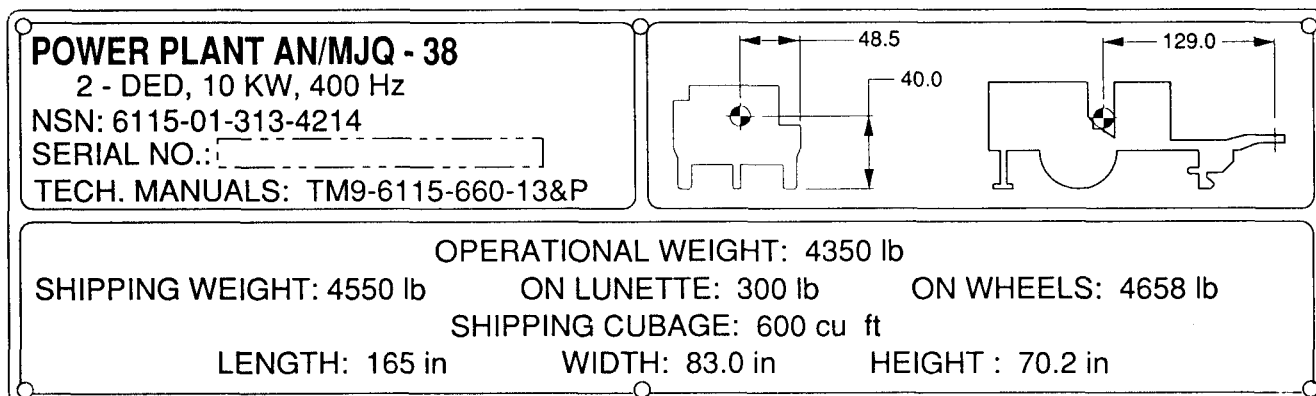

Figure 2-11. AN/MJQ-38 Identification/Transportation Data Plate.
**2-6.2 AN/MJQ-38 Identification/Transportation Data Plate.** Refer to figure 2-11. This plate is located on front of curbside fender.